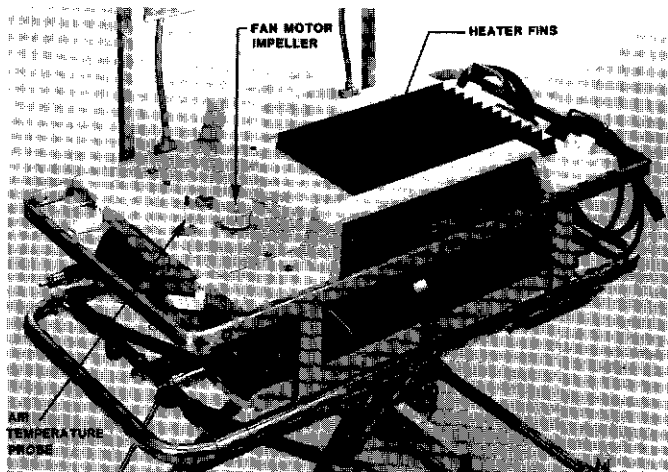

FIGURE 5.3 LOWER SHELL
- B. RELEASE AND PULL BACK THE FOUR SHELL LATCHES at the head and foot end of the Incubator (Figure 5.3).
- A. REMOVE ANY LINT from the heater fins, fan motor impeller, and air temperature probe (Figure 5.3).
- A. **ALIGN THE AIR TEMPERATURE PROBE** with the hole on the upper shell. Secure the latches at the head and foot ends of the unit (Figure 5.3). Make sure impeller is approximately 1.6 mm (1/16") from cover and rotates freely.